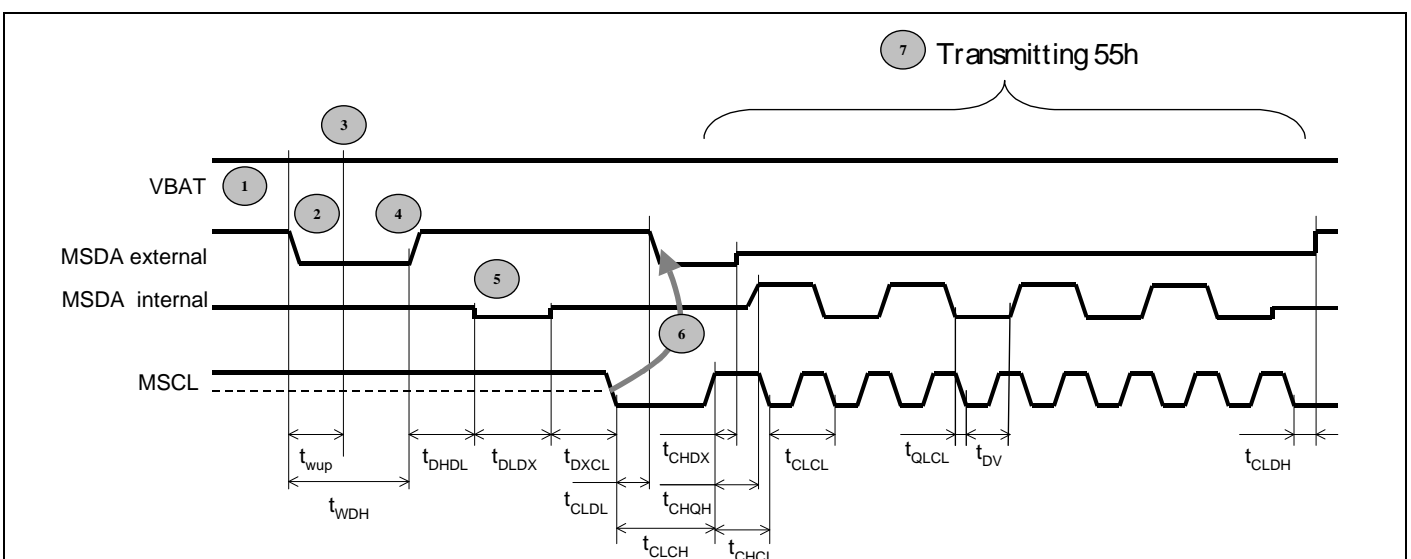

Figure 7 Timing Sequence Enter Monitor Mode with permanent power supply (example for internal mode)
- POWER-OFF Mode: Is signalled by MSCL = 0 (see Figure 7). In this case an Enter Debug Mode sequence like it is depicted in Figure 7 must be performed.